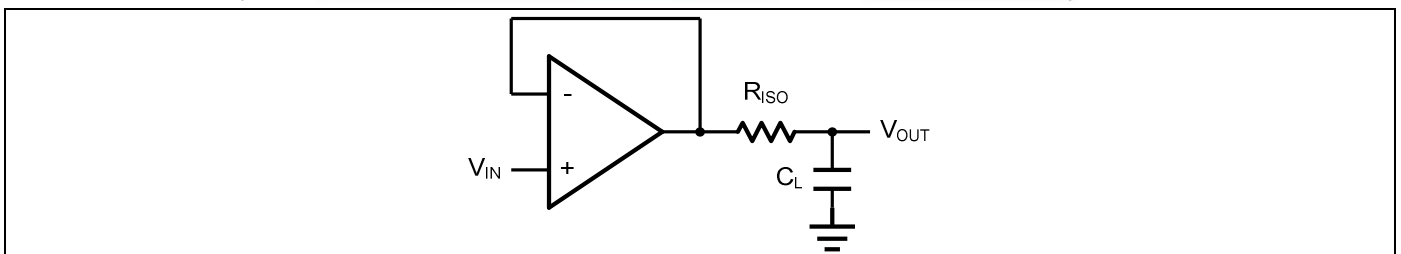
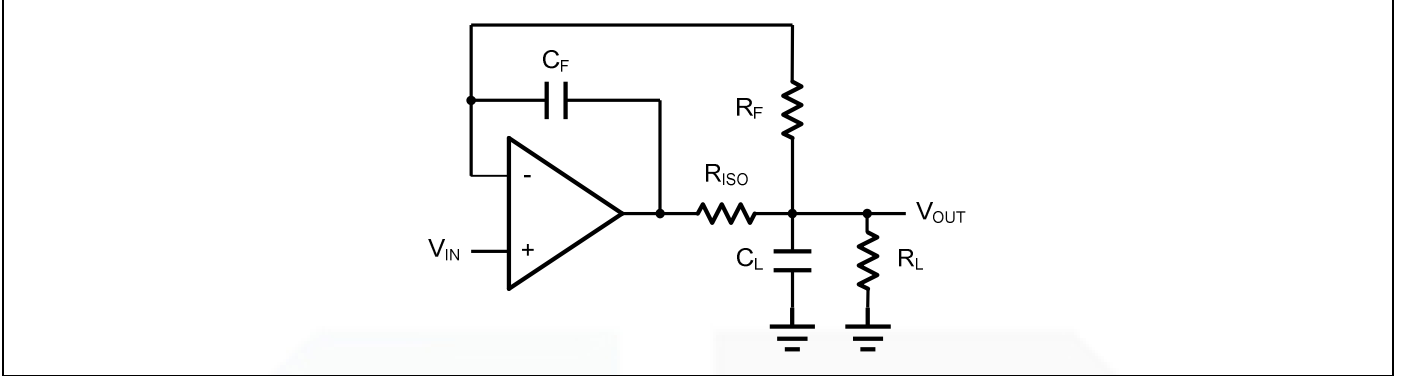

Figure 2. Indirectly Driving a Capacitive Load Using Isolation Resistor
Figure 3. Indirectly Driving a Capacitive Load with DC Accuracy
The HGV602X family is optimized for bandwidth and speed, not for driving capacitive loads. Output capacitance will create a pole in the amplifier's feedback path, leading to excessive peaking and potential oscillation. If dealing with load capacitance is a requirement of the application, the two strategies to consider are (1) using a small resistor in series with the amplifier's output and the load capacitance and (2) reducing the bandwidth of the amplifier's feedback loop by increasing the overall noise gain. Figure 2. shows a unity gain follower using the series resistor strategy. The resistor isolates the output from the capacitance and, more importantly, creates a zero in the feedback path that compensates for the pole created by the output capacitance.
The circuit in Figure 3 is an improvement to the one in Figure 2. R_{F} provides the DC accuracy by feed-forward the V_{IN} to R_{L} . C_{F}